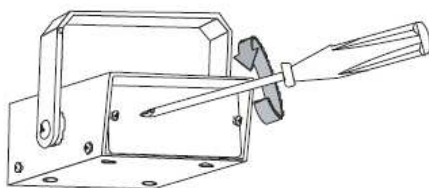

Figure 2
1. Unscrew and remove the clear lens.- (reference to figure 2)